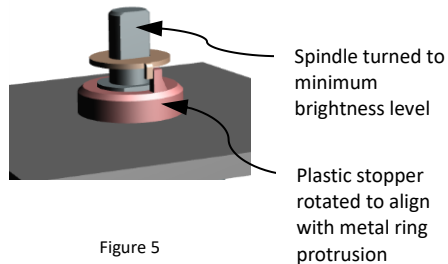

Figure 5
5. Position the plastic stopper such that its vertical wall is in contact with the protruded part of the metal ring (figure 5). Push the clear plastic stopper down to fix it in place.